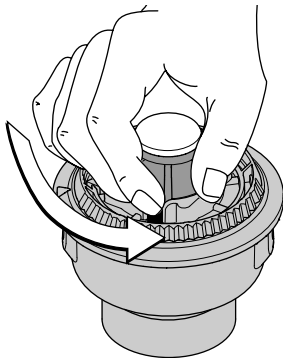

Fig. 48
1. Hold the outer spool, and unscrew the bump knob counterclockwise (Fig. 48).